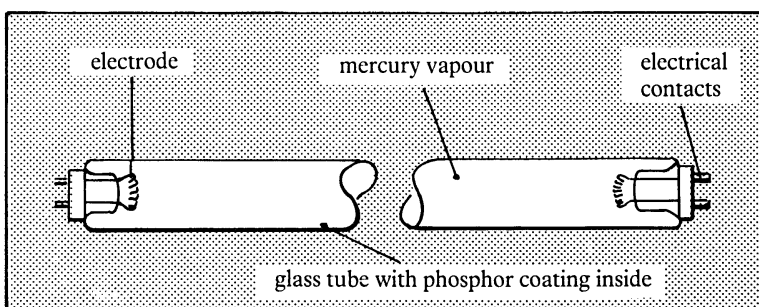

Figure 7 A fluorescent tube
Most people like white or pale yellow light in their homes, so sodium lights and neon lights are not often used indoors. Instead fluorescent tubes are used (Figure 7).
- 10 Suppose you wanted to display your initials in fluorescent light on the front of your school. Sketch a modified version of Figure 7 to show how you would do it.